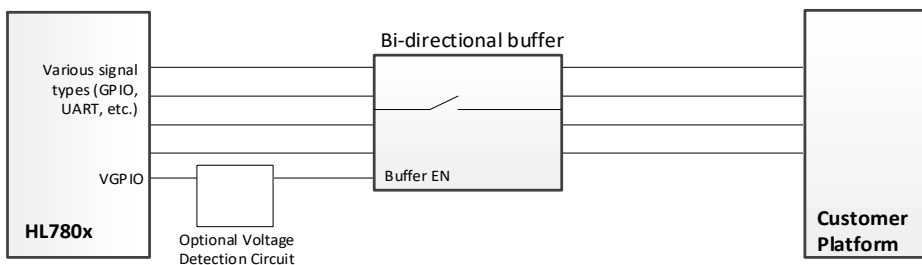
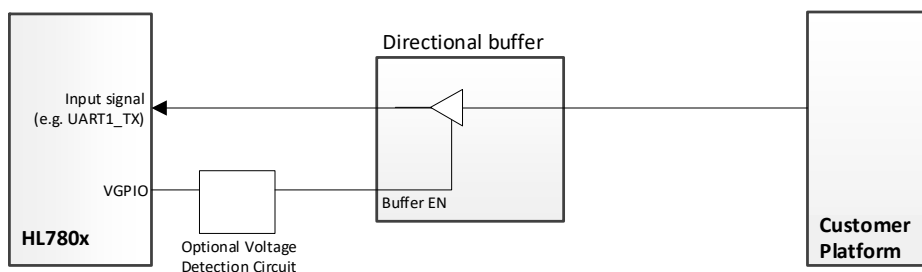

Figure 6-3: Example — Buffer – Bidirectional Signal
Figure 6-4: Example — Buffer – Directional Signal
- Bidirectional (Input/Output) signals — For module I/O signals (e.g. GPIOs), an analog switch that can tri-state both the output and the input can be used (e.g. Texas Instruments TMUX1511). As shown in Figure 6-3, I/O signals connected to the buffer will be tri-stated.
- Directional (Input) signals — For module inputs (e.g. UART1_TX), a logic buffer with output tri-state mode can be used (e.g. Texas Instruments SN74LVC1G126). As shown in Figure 6-4, the signal is controlled and, when disabled, the output signal is tri-stated.
To ensure faster detection of VGPIO transitions, Sierra Wireless recommends adding an optional voltage detection circuit (as shown in Figure 6-3 and Figure 6-4) to monitor and detect the transition low, and then control (enable / disable) the associated buffer circuit.